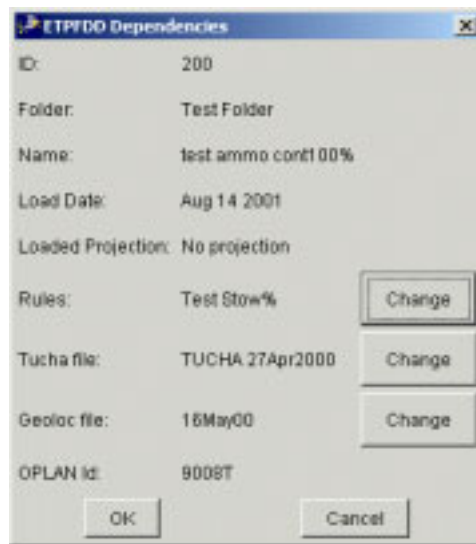

Figure 5.43 ETPFDD Dependencies Window
1. On the ETEdit (main) window, on the File menu, click Dependencies. The ETPFDD Dependencies window opens (Figure 5.43).